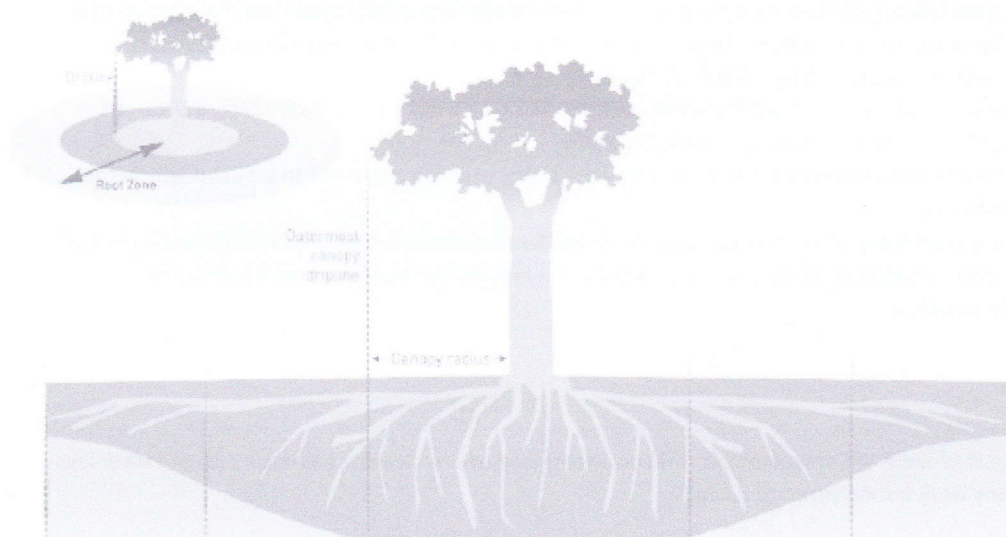

Figure 4: Shows the extensive kauri root zone, which extends three times the canopy radius (the distance from trunk to dripline)
3. Where possible, do not work within the kauri root zone, *which extends to 3 times the canopy radius of any tree (refer to figure 4)*.